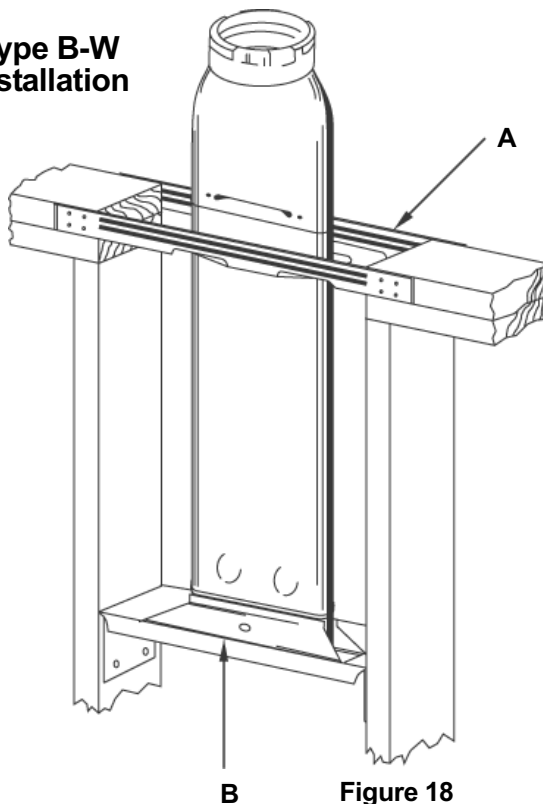

Figure 18
5. The installation must contain an Oval Hold-Down Plate (4OHD) at the base, Oval Plate Spacers (4OPS) at the first ceiling level, and Firestop Spacers (4OPS) at any additional floor levels. See **Figures 18** and **19**.
2. Nail one AmeriVent Plate Spacer (40PS), (A), across cut-out area in ceiling plate. See **Figure 18**. Plate Spacer (4OPS) is required at the first ceiling level above a wall furnace to center and space vent properly and to provide the required opening between floors.
3. Snap Hold-Down Plate (4OHD), (B), onto bottom end of AmeriVent pipe as shown in **Figure 18**. Install Vent Section in position. Use two No. 8 binder head sheet metal screws to attach Hold-Down Plate firmly to Furnace header plate through pre-punched holes.
4. Nail second AmeriVent Plate Spacer across cutout ceiling plate as shown in **Figure 18**. Firestop Spacers (OFS) must be used at subsequent levels.